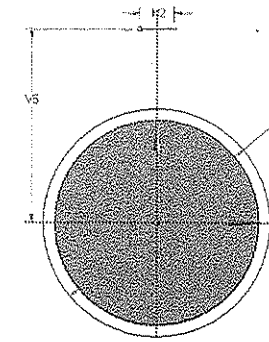

Figure 5-75 A line created at an offset
7. Create a line at an offset from the horizontal axis, as shown in Figure 5-75. For dimensions, refer to Figure 5-75.